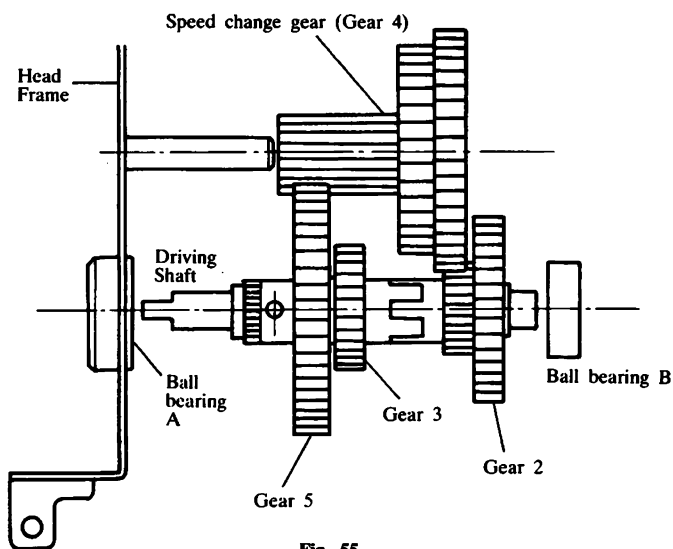

Fig. 55
- (3) Put some grease on the shaft for speed change gear. With gearing the gear 4 with the gear 5 and the gear 2, install them to the shaft and the Ball bearing A simultaneously. (Refer to Fig. 55)
- (4) Put the Ball bearing B to the end of the driving shaft.